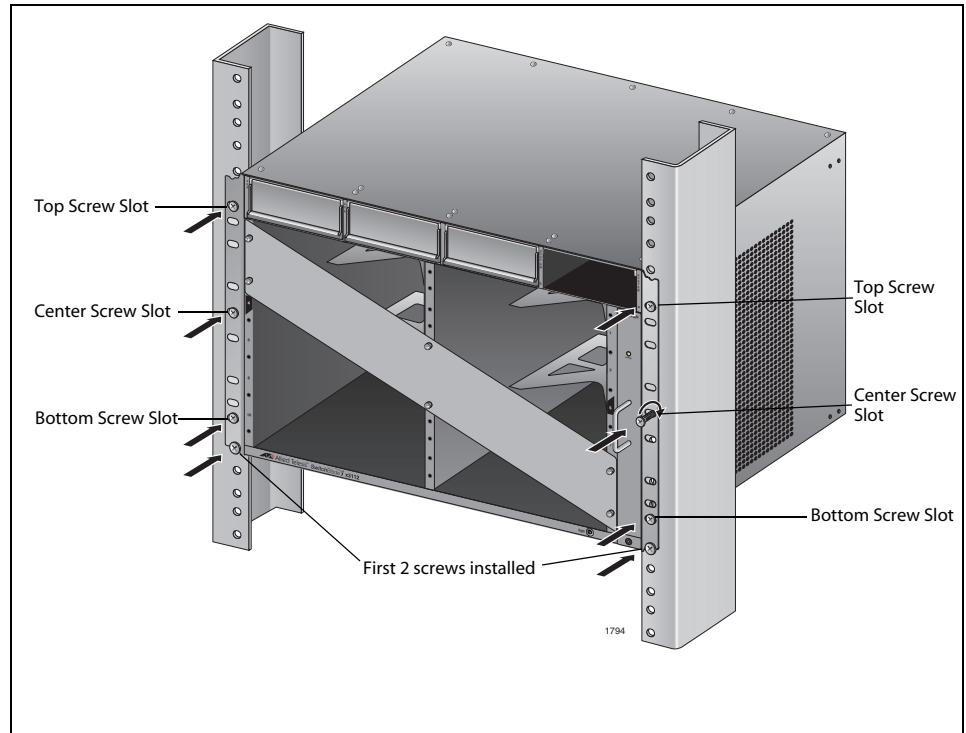

Figure 26. Installing the Rack Mount Screws
4. Install the six remaining rack mount screws (not provided) as displayed in Figure 26 on page 57.